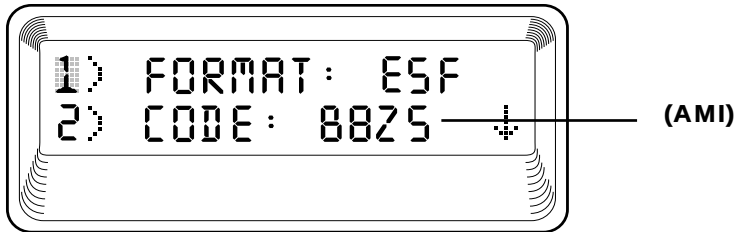

Figure 4-3
The unit displays the first two Network (NI) menu items (see Figure 4-3).